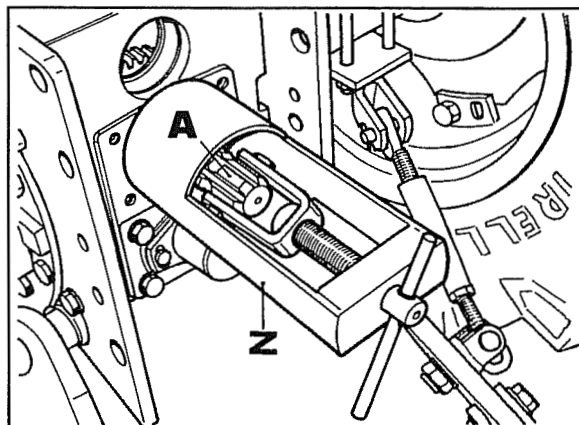
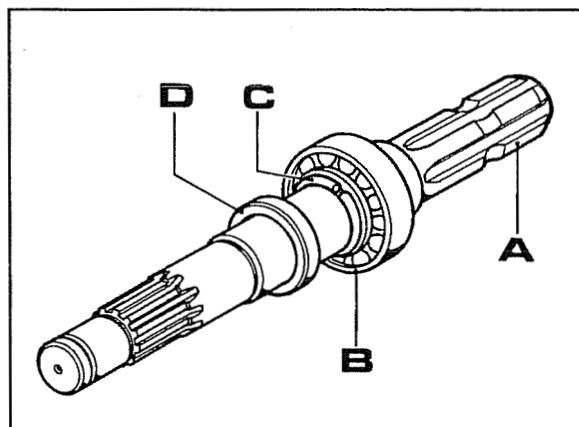
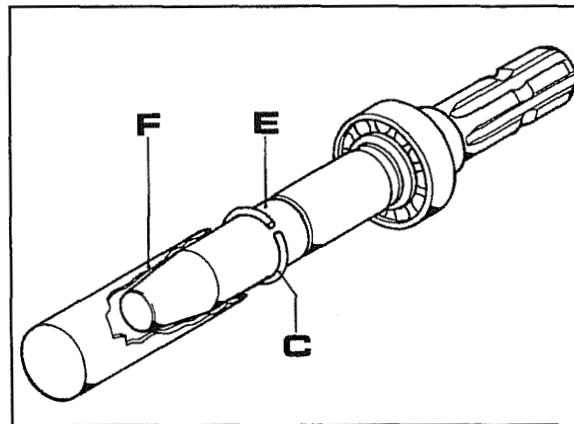

Fig. 17
Fig. 18
Fig. 20
7. Use special tool **Z** Fig. 17 to extract the top PTO **A** shaft (Fig. 17 and 18) which comes out complete with bearing **B** clamped to the shaft by the retaining action of split ring **C** Fig. 18. This retaining action is due to the fact that at this stage split ring **C** is covered by washer **D** which prevents it from opening and, hence, the split ring cannot come out of its seating on the shaft.
- To reinstall spring ring **C** Fig. 18 and 20, use the special tool with a tapered section **E** Fig. 20 and a cylindrical part **F** needed to push the ring into its seating.